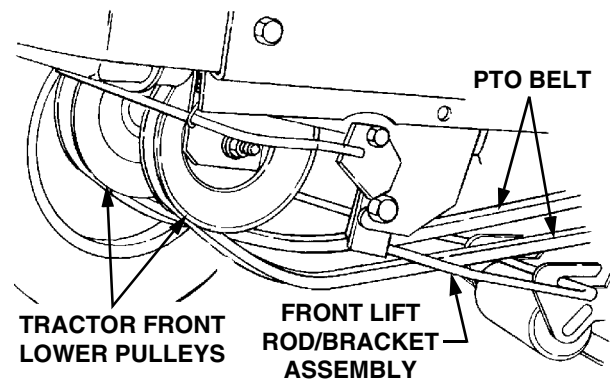

Figure 38
- Twist the PTO belt 1/4 turn to engage the narrow sides of the belt into the grooves of the two tractor front-lower pulleys (Refer to Figure 38).